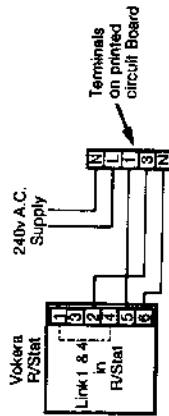

Fig. 1
In this mode the timed/summer/constant switch must be in the closed i.e. constant position fig. 1.
Remove the clock aperture blanking plate (1) (fig 1) by squeezing the two lugs on the rear of the plate together and push the plate out.